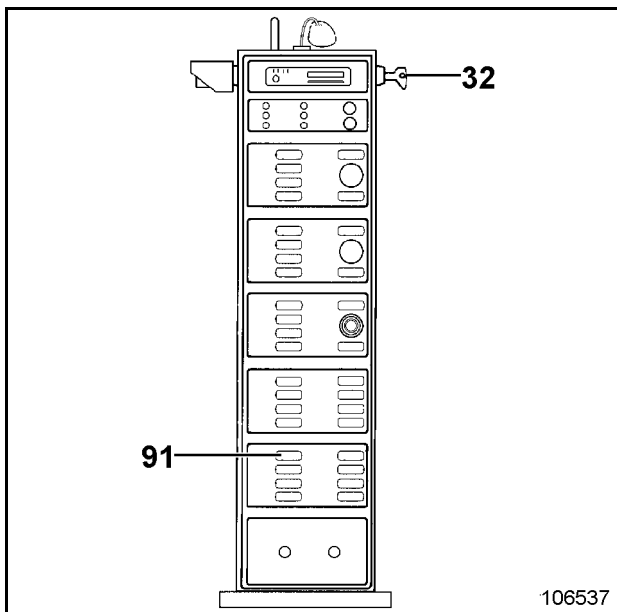

Fig. 2-101:
- Switch on the electric system with switch (32, Fig. 2-101:),
- Operate switch (91),
- Push control lever (116) forwards.